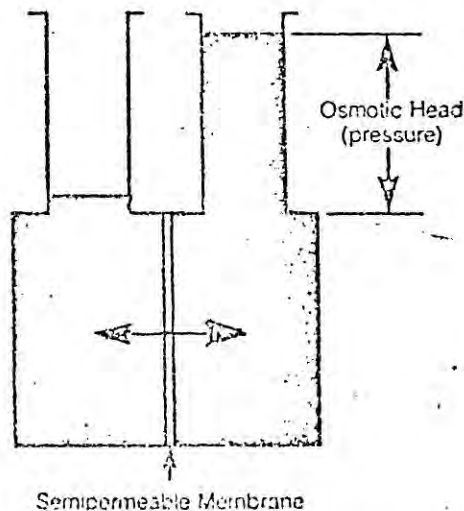

Fig. 1b/Osmotic Equilibrium
- 1.1.2. Water flows through the membrane from the dilute solution to the more concentrated solution until the pressure generated by the osmotic head is equal to the osmotic pressure of the salt solution as in Fig 1b.